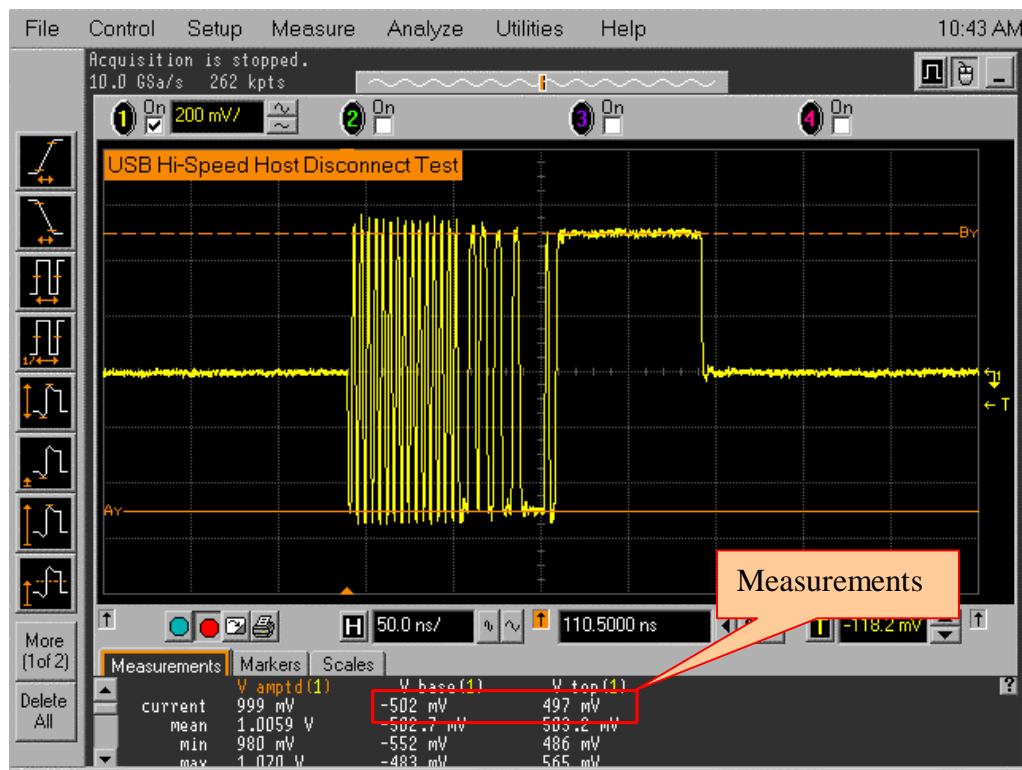

Figure 21. SOF Packets Transmitted by Port Under Test
6. Verify the SOF packets are being transmitted from the port under test (Figure 21)